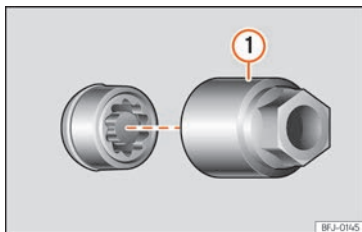

Fig. 32 Anti-theft wheel bolt with cap and adapter.
- Insert the special adapter » **Fig. 32 ①** (vehicle tools » **page 35**) onto the anti-theft wheel bolt and push it on as far as it will go.